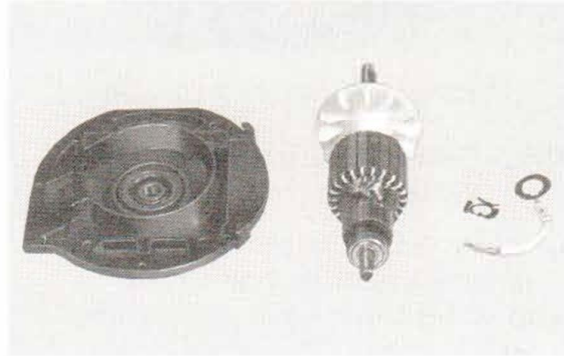

Figure 33. Front Bearing, Armature Assembly, Static Wire, and Finger Spring
- E. *See Figure 33.* If required, the retainer and front bearing can be removed from the bearing plate assembly by using T155, snap ring compressor plier No. 0300.